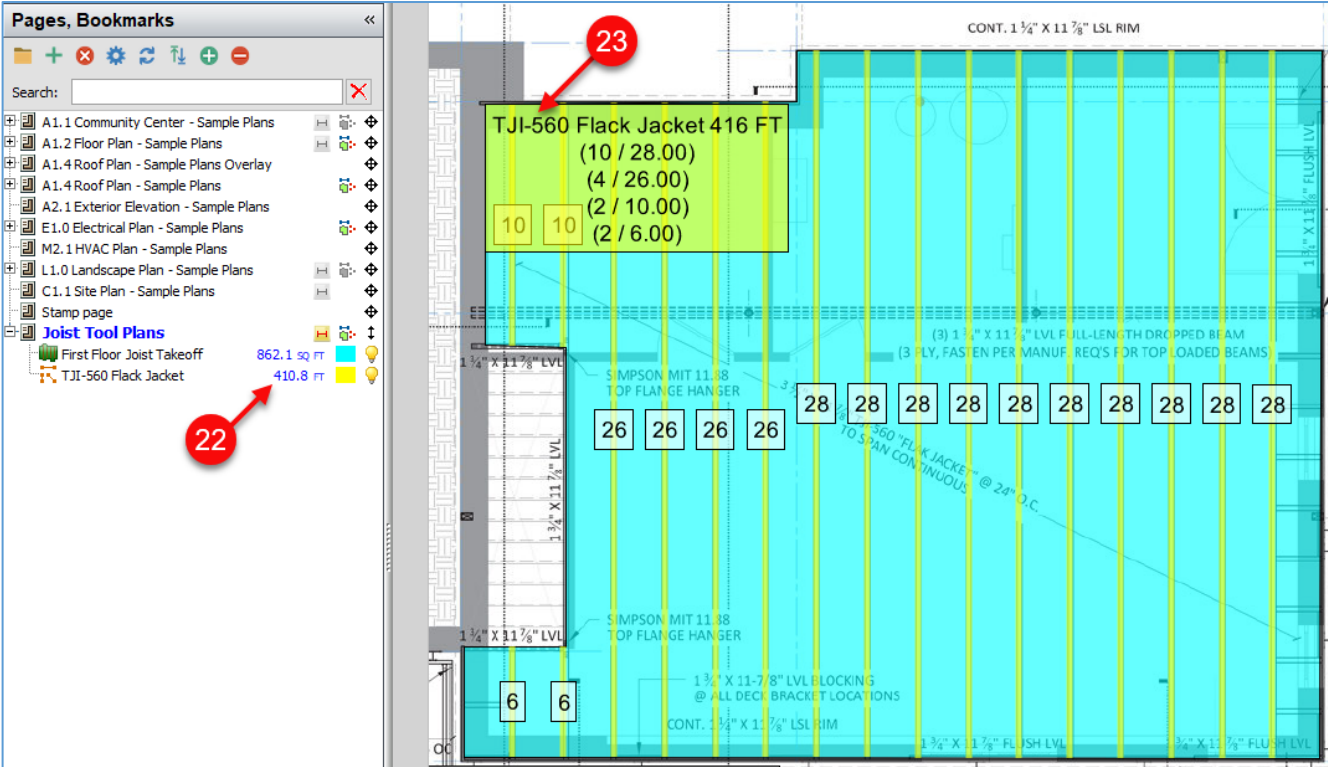

Figure 36-D
24. If you need to double one of the joists, click on a joist to select it so that it is highlighted in red (Fig. 36-E).